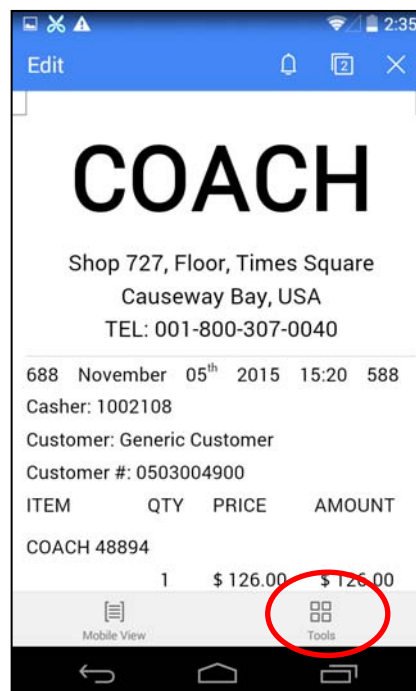

Figure 26
4.2 Open the document which is to be printed in the software, then click the "Tools" button, as shown in Figure 26.